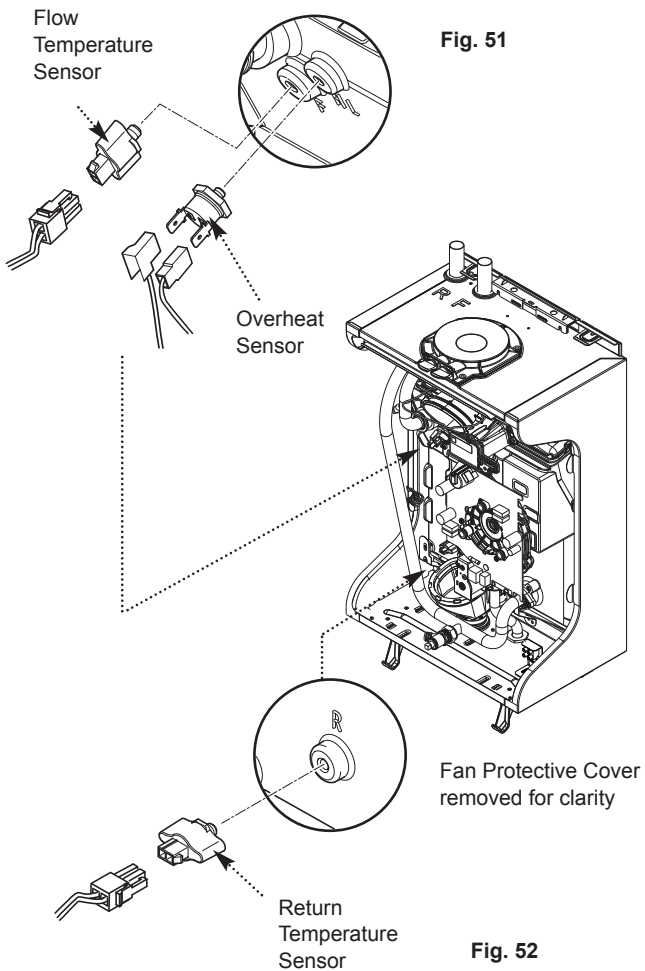

Fig. 51
10.3.6 Flow Temperature Sensor (Fig. 51)
10.3.7 Overheat Sensor (Fig. 51)